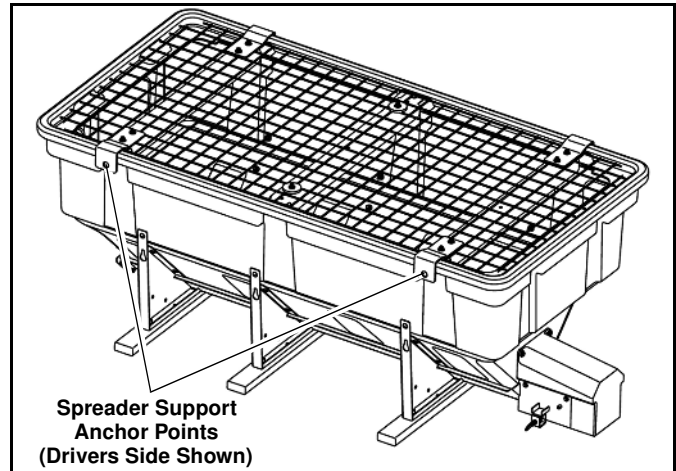

Figure 1-14
5. Using suitable tie-down straps or chain, secure the spreader to the vehicle's factory installed anchor points using two tie-down brackets on each side of the spreader hopper. (See Figure 1-14)